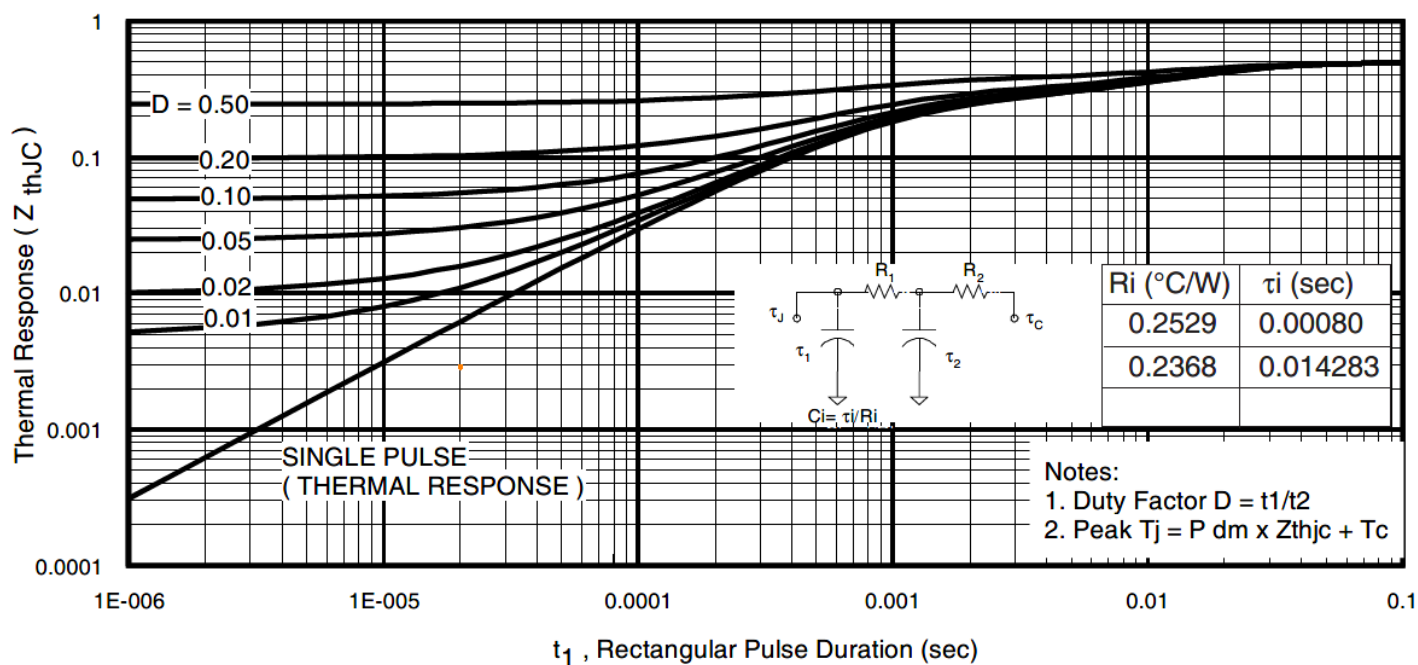
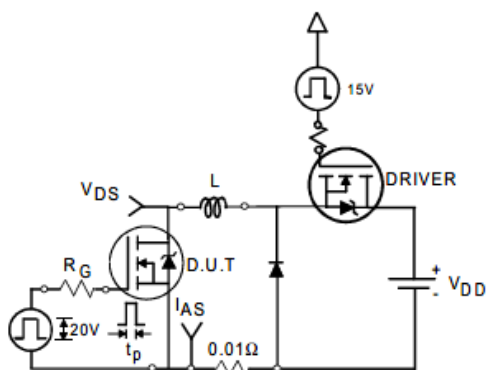

Fig 11. Maximum Effective Transient Thermal Impedance, Junction-to-Case
Fig. 12a. Unclamped Inductive Test Circuit
- ① Repetitive rating; pulse width limited by max. junction temperature. (See fig. 11).
- ② Limited by T_{Jmax} , starting $T_J = 25^\circ\text{C}$, $L = 0.12mH$, $R_G = 25\Omega$, $I_{AS} = 95A$, $V_{GS} = 10V$. Part not recommended for use above this value.
- ③ Pulse width $\leq 1.0ms$; duty cycle $\leq 2\%$.
- ④ $C_{oss\ eff.}$ is a fixed capacitance that gives the same charging time as C_{oss} while V_{DS} is rising from 0 to 80% V_{DSS} .
- ⑤ Limited by T_{Jmax} , see Fig.12a, 12b, 15, 16 for typical repetitive avalanche performance.
- ⑥ This value determined from sample failure population. 100% tested to this value in production.
3. Equation below based on circuit and waveforms shown in Figures 12a, 12b.
$Z_{thJC}(D, t_{av})$ = Transient thermal resistance, see Figures 11)